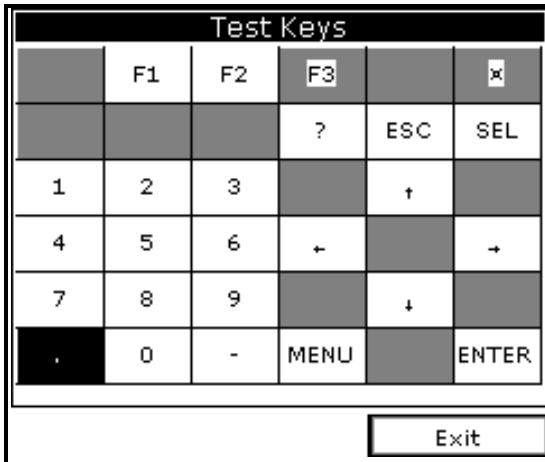

Figure 63: Functioning Test Screen
4. Use the arrow keys to scroll to **Test Screen** and press [ENTER]. A screen with a checkerboard pattern appears as shown in Figure 63.